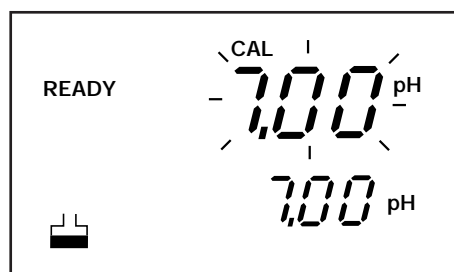

Figure 14
8. Press the **ENTER** button. The primary display flashes the calibration value. The calibration point is now stored in the meter. —See Figure 14.